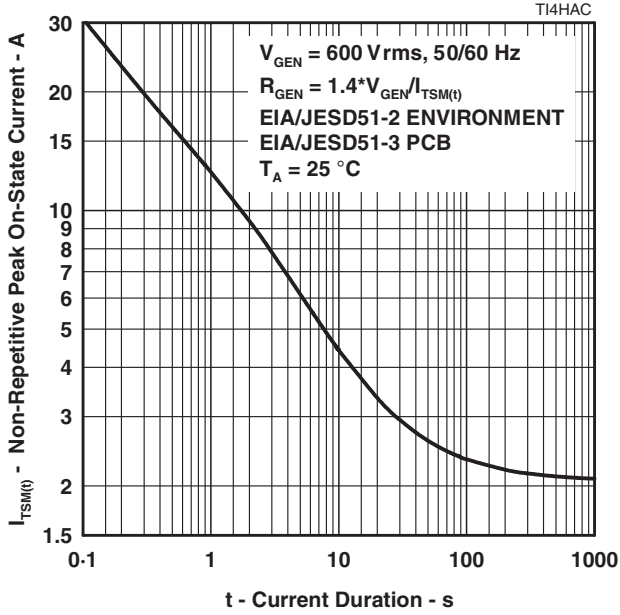

Figure 6.
4. EIA/JESD51-2 environment and EIA/JESD51-3 PCB with standard footprint dimensions connected with 5 A rated printed wiring track widths. See Figure 6 for the current ratings at other durations. Derate current values at $-0.61\text{ %/}^{\circ}\text{C}$ for ambient temperatures above 25 °C .